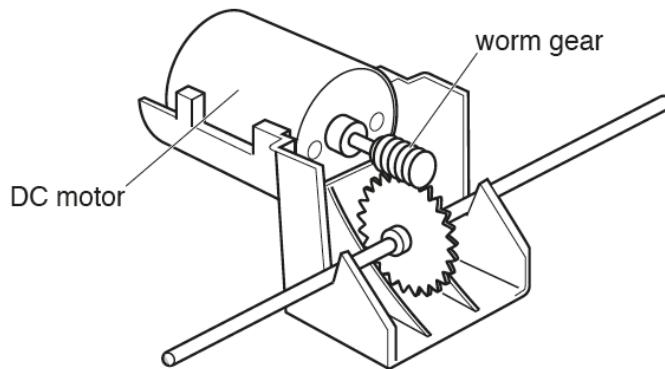

Fig. 5
- (c) Fig. 5 shows a gearbox for a toy car driven by a direct current (DC) motor using a worm gear.